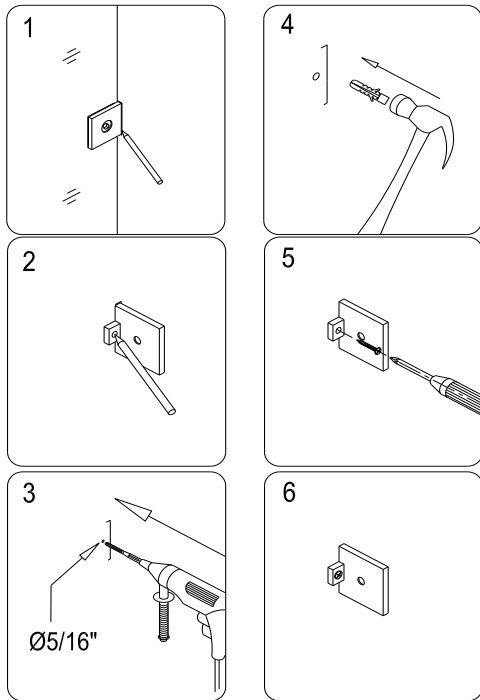

fig. 3
4. Using the removed **Brackets**, mark the position of the holes for **Wall Bracket** installation on the wall. Drill the holes and insert the **Wall Anchors (07)** into the holes. Attach the **Wall Brackets** to wall using the **Round head screw ST 4.2x30 (08)**. See Fig. 3 for details. (**Note that all parts of the wall brackets with the mounting holes should face inward in final installation**).